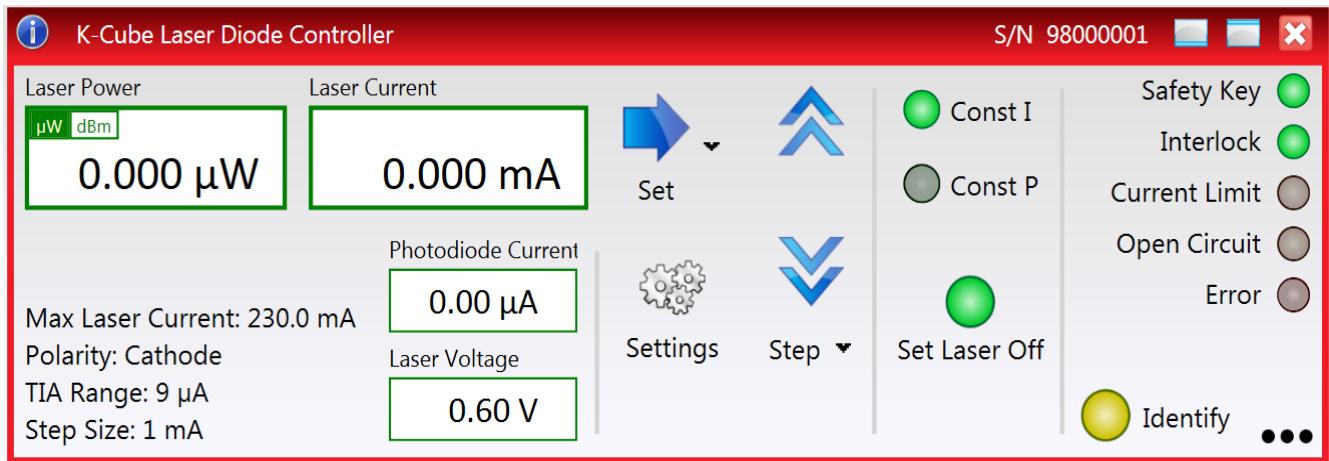

Fig. 5.2 Laser Driver Software GUI
- 8) Run the Kinesis software - Start/All Programs/Thorlabs/Kinesis/Kinesis. The server registers automatically the units connected on the USB bus and displays the associated GUI panels as shown in Fig. 5.2..